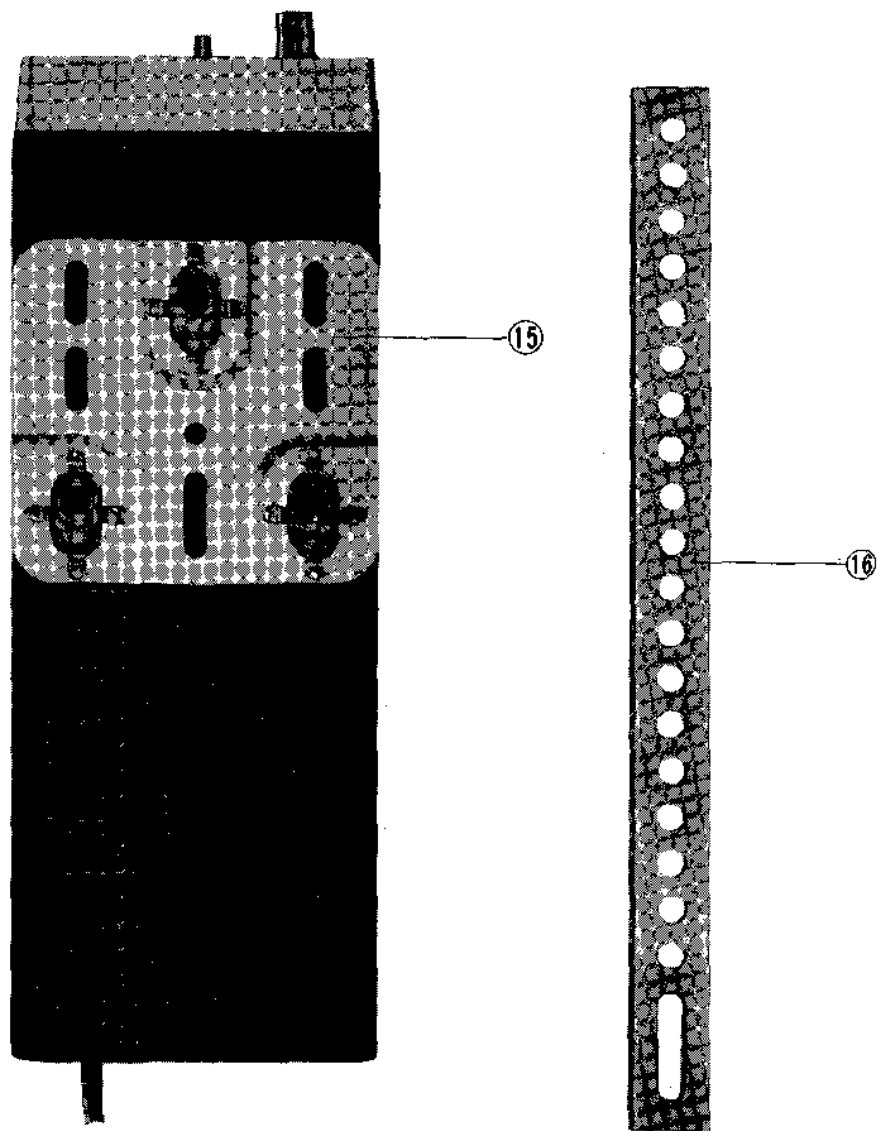

Figure 2-1
1. Take out the furnished mounting metal bracket ⑮ and attach it at the ensured installation position on the body of the radio. Depending on the installation position, use the supplied auxiliary mounting bracket, which can be bent or cut freely to your need (See Figure 2-1).
3. Set the body of the radio again on the mounting bracket. Prior to taking this step, ensure that the calibration switch on the rear on the body of the radio ⑩ is at "OFF" position (See Figure 2-1).
5. Perfectly connect the antenna connector ⑪ (See Figure 2-1).
6. Connect the microphone to the microphone connector ③ on the front of the radio, and fix the supplied microphone hanger on a convenient place for removal (See Figure 2-1).